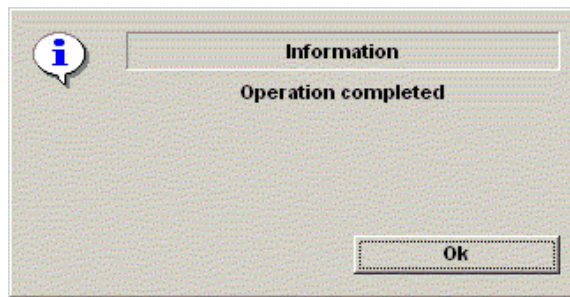

Figure 4-34 Format Successful Pop-up Menu
- 5.) The Ultrasound system displays a pop-up menu, as shown in Figure 4-34. When the formatting has been completed, press OK to continue.